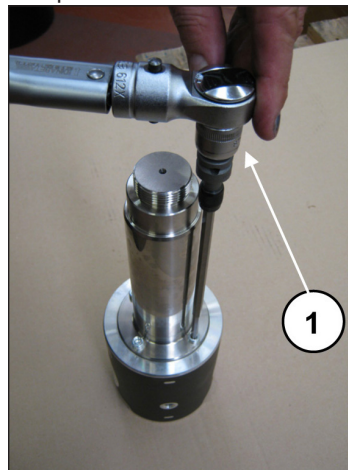

Fig. 46
Lock the piston guide in a vice with the aid of a special tool and calibrate the screws with a torque wrench (pos. ①, Fig. 46) as indicated in chapter 3.